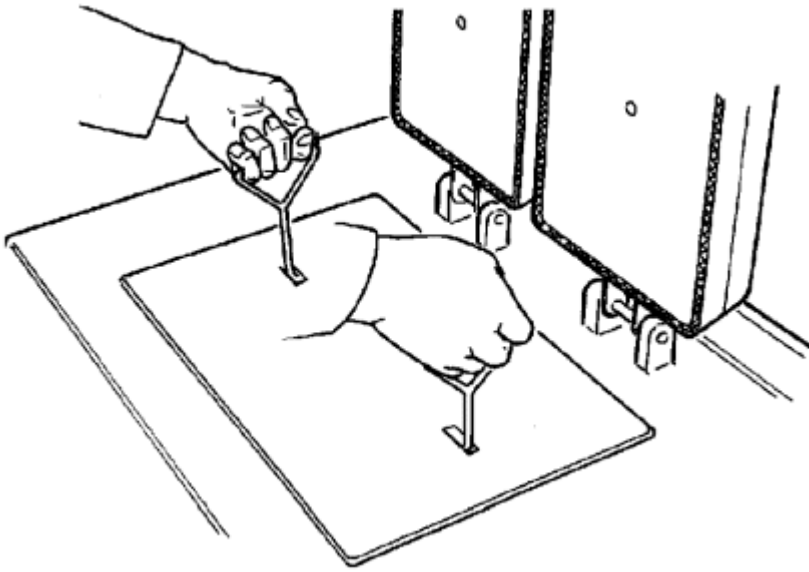

Fig.17 Removal of Hot Plate DESN 510145 A
- a. Lift out the hotplate via lifting tools - See Fig.17.